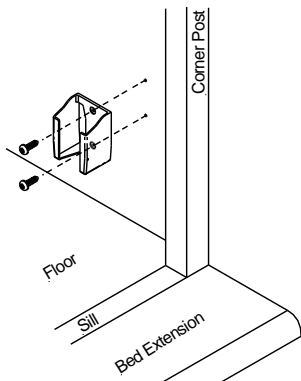

Fig. 25
1. Mount the holster approximately 40”- 48” from the vehicle floor, or determine the best location as preferred by end user, **Fig 25**.